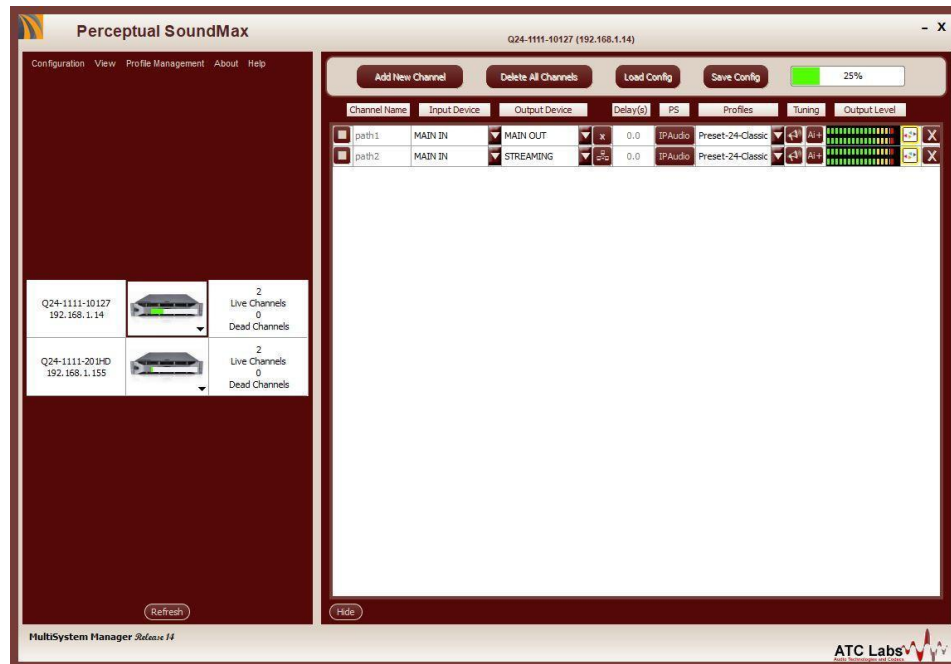

Figure 2.5.2: SoundMaxManager™ Detailed View (1111)
- SoundMaxManager™ will auto-detect the “Model Q24-1111 rack mount encoder/decoder” as Live Station. By clicking on the station from this list, you can get a detailed view (as shown in Figures 2.5.2 and 2.5.3 below) and options to configure that particular station.